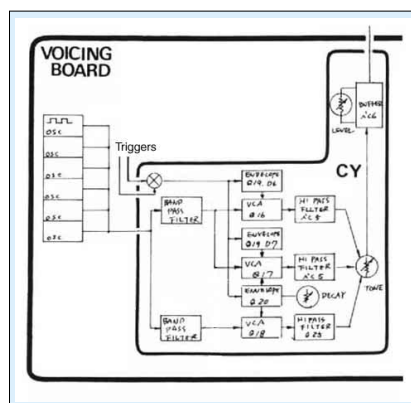
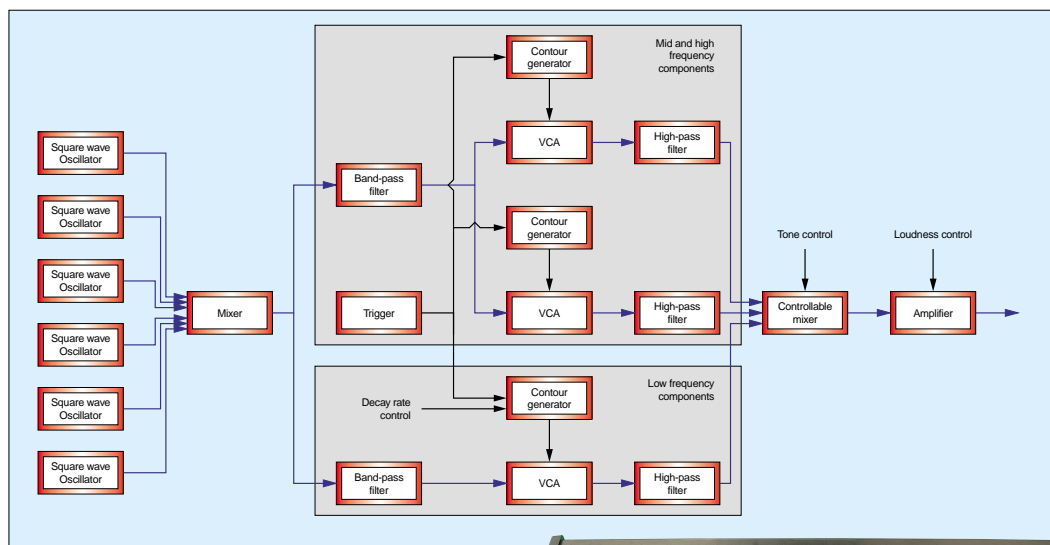
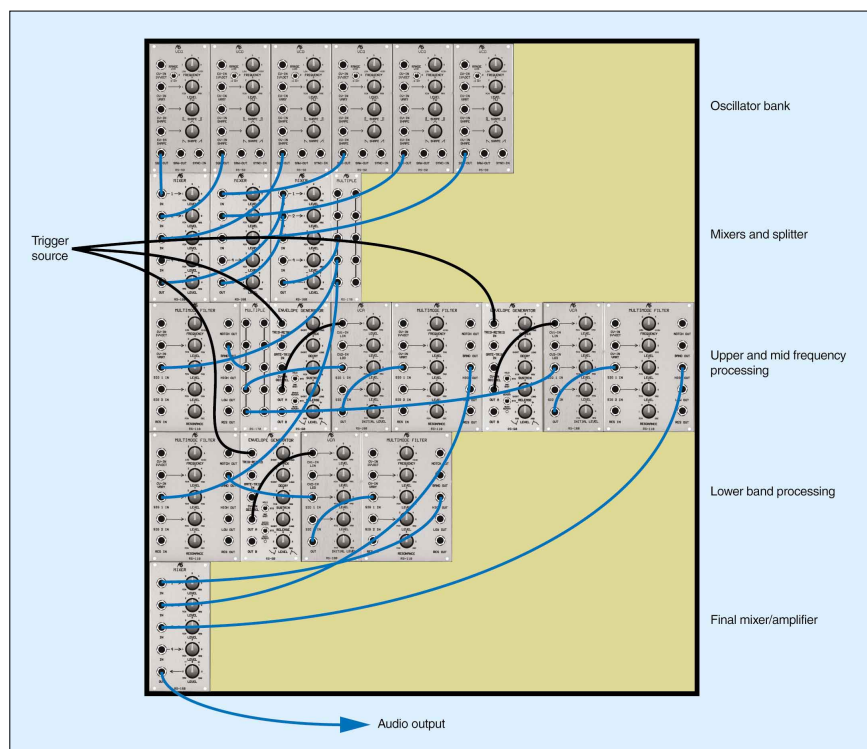

Figure 4: The TR808 cymbal block diagram.
Figure 5: The TR808 cymbal in Synth Secrets format.
Figure 6: Recreating the TR808 cymbal on a modular synthesizer.
Figure 4 (below left) shows the block diagram for the TR808 cymbal. I have reproduced this from Roland's documentation, removing all sorts of extraneous stuff to clarify things as much as possible. Figure 5 (shown on the next page) shows the same thing in a format more familiar to long-standing readers of this series. As you can see, there's nothing digital going on here.
► on a conventional analogue synthesizer. Just for fun, I've drawn Figure 6 (below), which shows a modern analogue synth — an Analogue Systems RS Integrator — configured to emulate the TR808 cymbal. That's right... this monster of a patch is *just* the cymbal in Figure 5. Note that I have not set the knobs on these modules to appropriate values... simply selected and patched the modules needed to do the job.
Adding up the cost of the modules, cases and PSUs in Figure 6, I reckon that we're looking at a collection of synth modules worth around £1500. Of course, unlike the TR808 cymbal circuit, this Integrator could produce a zillion and one other sounds, and with far higher fidelity than any analogue drum machine. Nonetheless, the diagram shows us that Roland's engineers were very smart cookies indeed.
Rather than patch the unrealistic monster in Figure 6, I'm now going to try — and, as you will see, fail — to create an acceptable cymbal